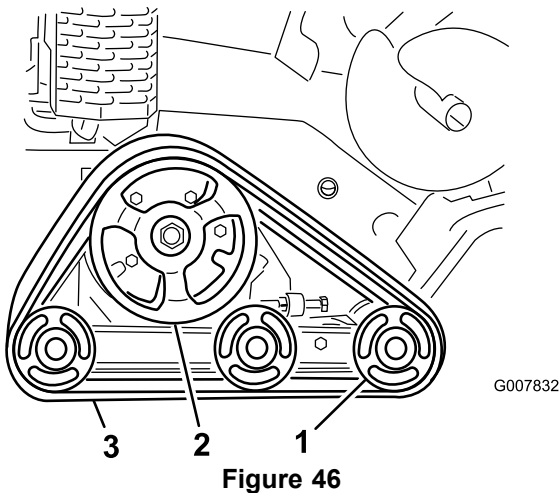

Figure 46
**Important:** Ensure that you fully clean the road wheels and the drive sprocket (Figure 46).